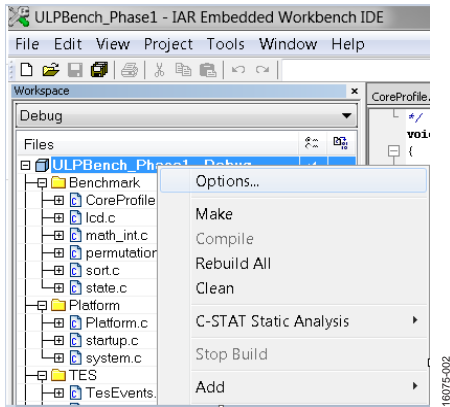

Figure 2. Project Options
1. Right click the name of the project and click **Options...**, as shown in Figure 2.